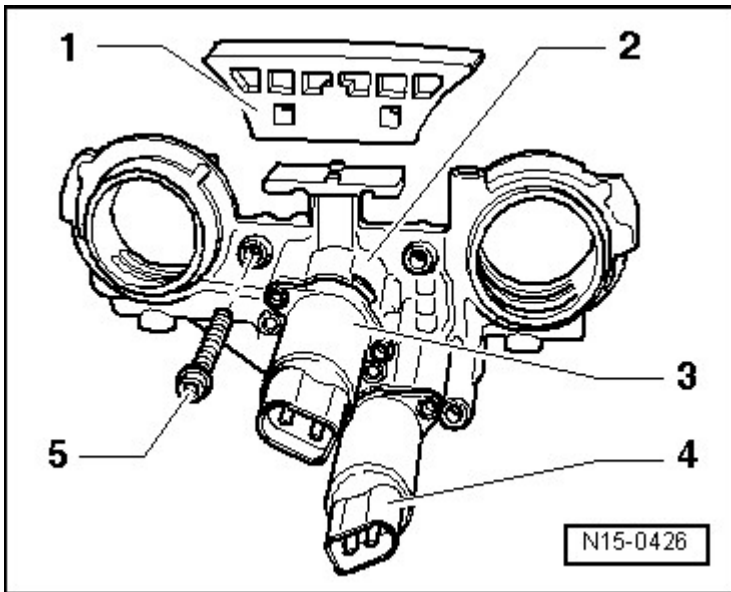

Fig. 16: Identifying Control Housing, Assembly Overview
- Disassembling and assembling **Fig. 16**